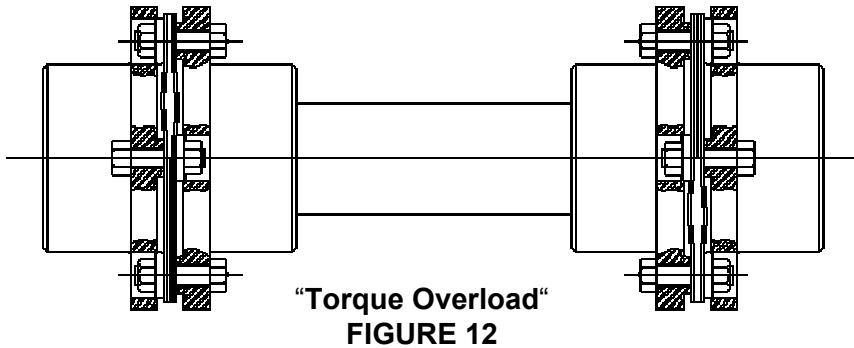

FIGURE 12
5. The disk pack has a bulge near the center or is bowed toward one flange in alternate chordal sections. See FIGURE 12.